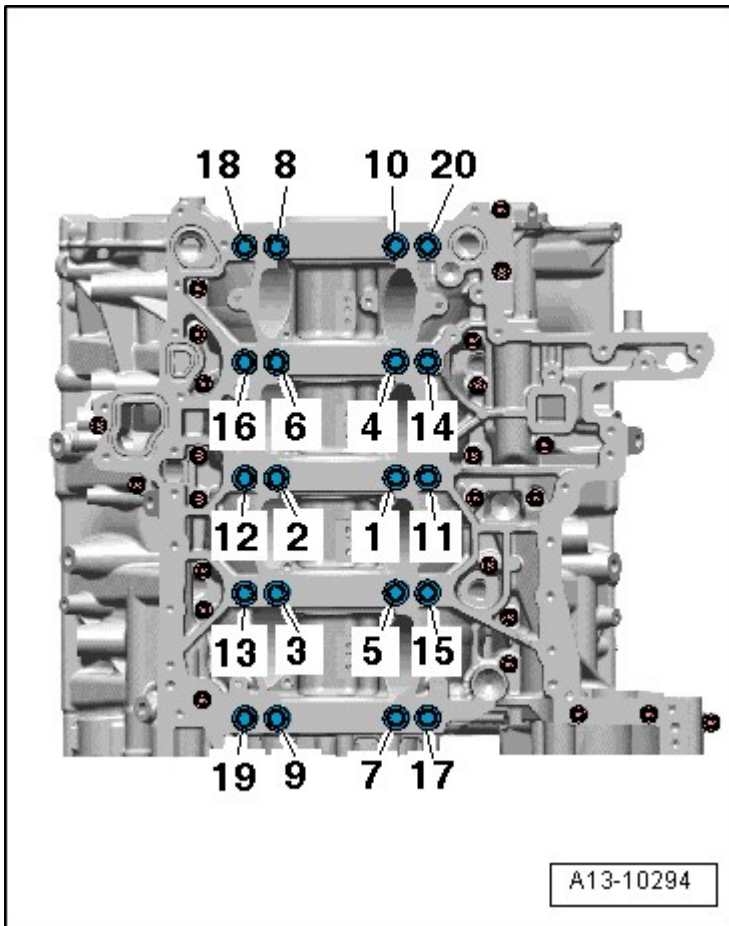

Fig. 13: Guide Frame Bolts Tightening Sequence
- Tightening order, refer to **Fig. 13**
- Tightening specification and sequence, refer to **Fig. 13**